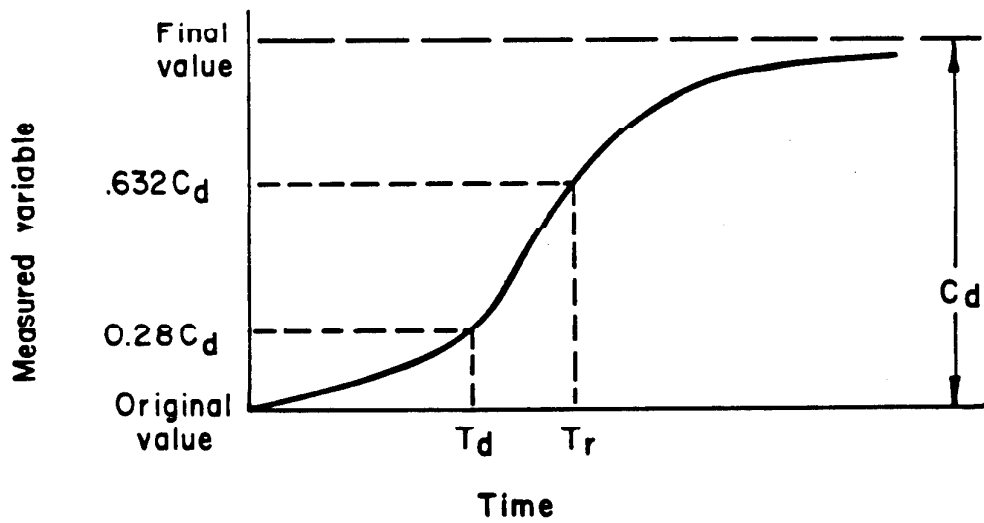

Figure 16 - Process Reaction Curve
2. Monitor the step response of the measured process variable to determine the times for the process variable to reach 28% (Td) and 63.2% (Tr) of the final steady state value. Write down the change in steady state value of the measured process variable (Cd) per figure 16.